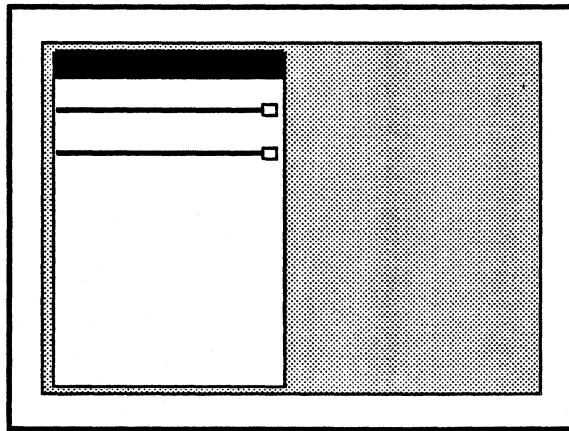

Figure 3.20
- 4) Press the left mouse button to stretch the side indicated to the new location (figure 3.20).